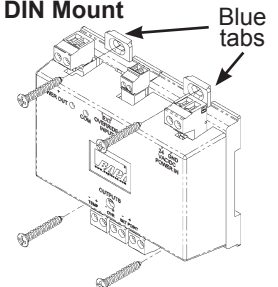

Fig 6. Communication Output Module Screw Mount
Surface Screwed Mounting: (Figure 6)
- 1 Pull the blue mounting tabs out as shown in Figure 6.